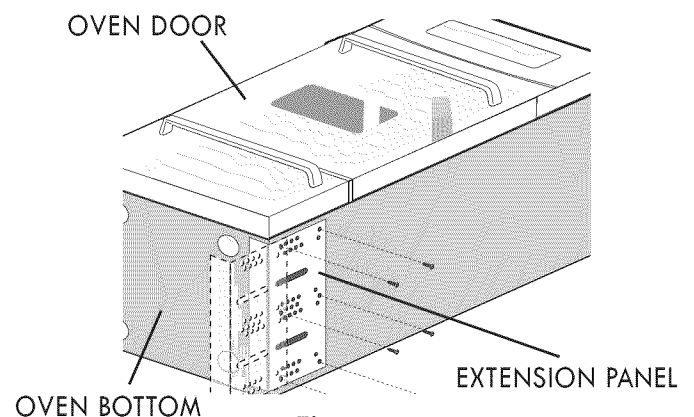

Figure 4
1. Lay oven on its back (see figure 4).